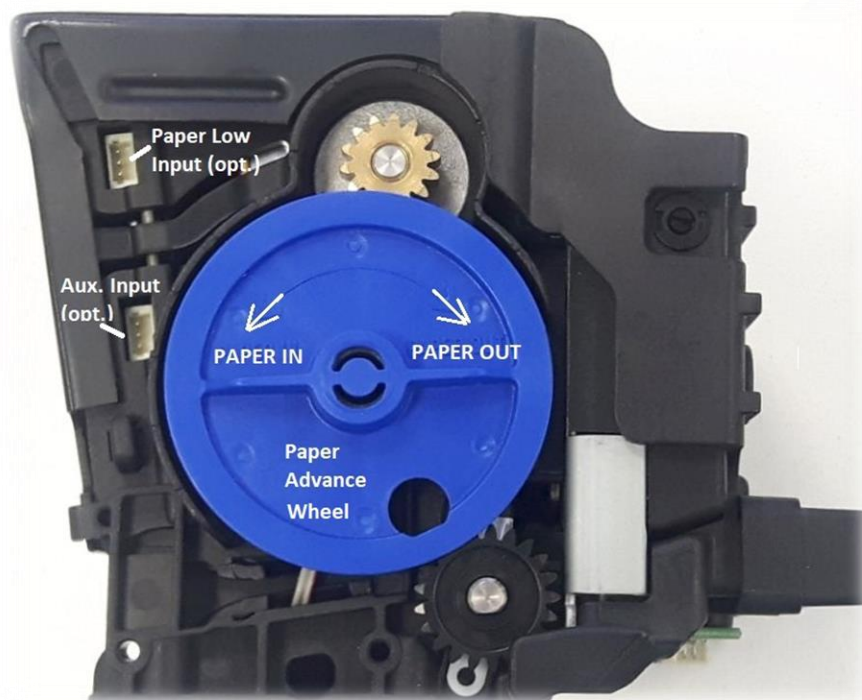

Figure 4
- Figure 4 shows the opposite side of an eXtendo®, showing the Paper Advance Wheel and the Paper Low and Auxiliary Sensor connectors.